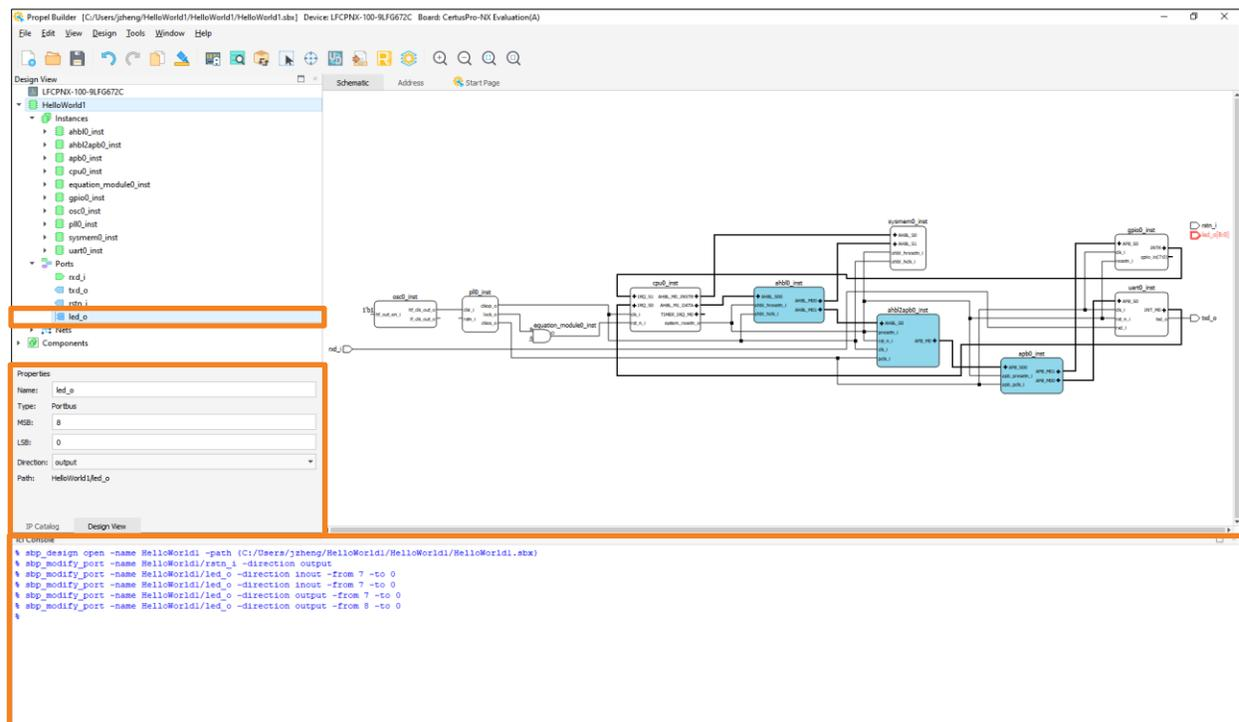

Figure 2.65. PortBus Direction
- c. PortBus MSB, LSB and direction can be modified. Click on PortBus and then use the drop-down menu to choose the desired direction (Figure 2.65).